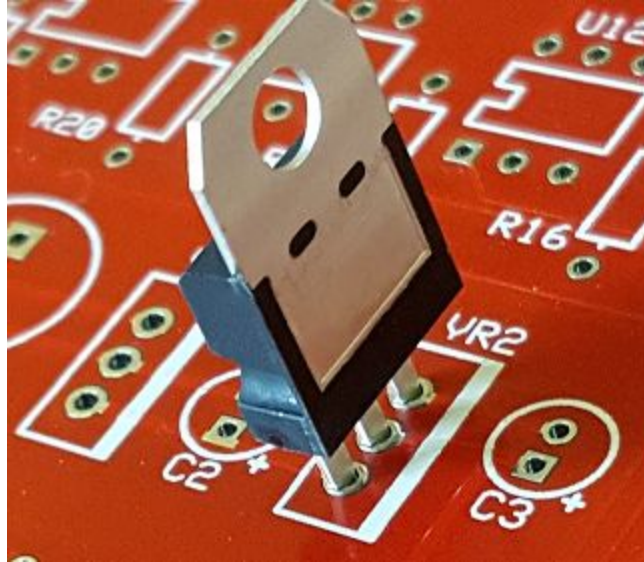

Fig 5
12. Install VR1, the 7805 5 volt regulator. Ensure that the back of the device is oriented with white stripe on the circuit board. See Fig5.
13. Install VR2, the LD1117V33 3.3 volt regulator. Ensure that the back of the device is oriented with white stripe on the circuit board. See Fig5.
14. Install the BTA08 triacs. Ensure that the back of the devices are oriented with white stripe on the circuit board. See Fig5.